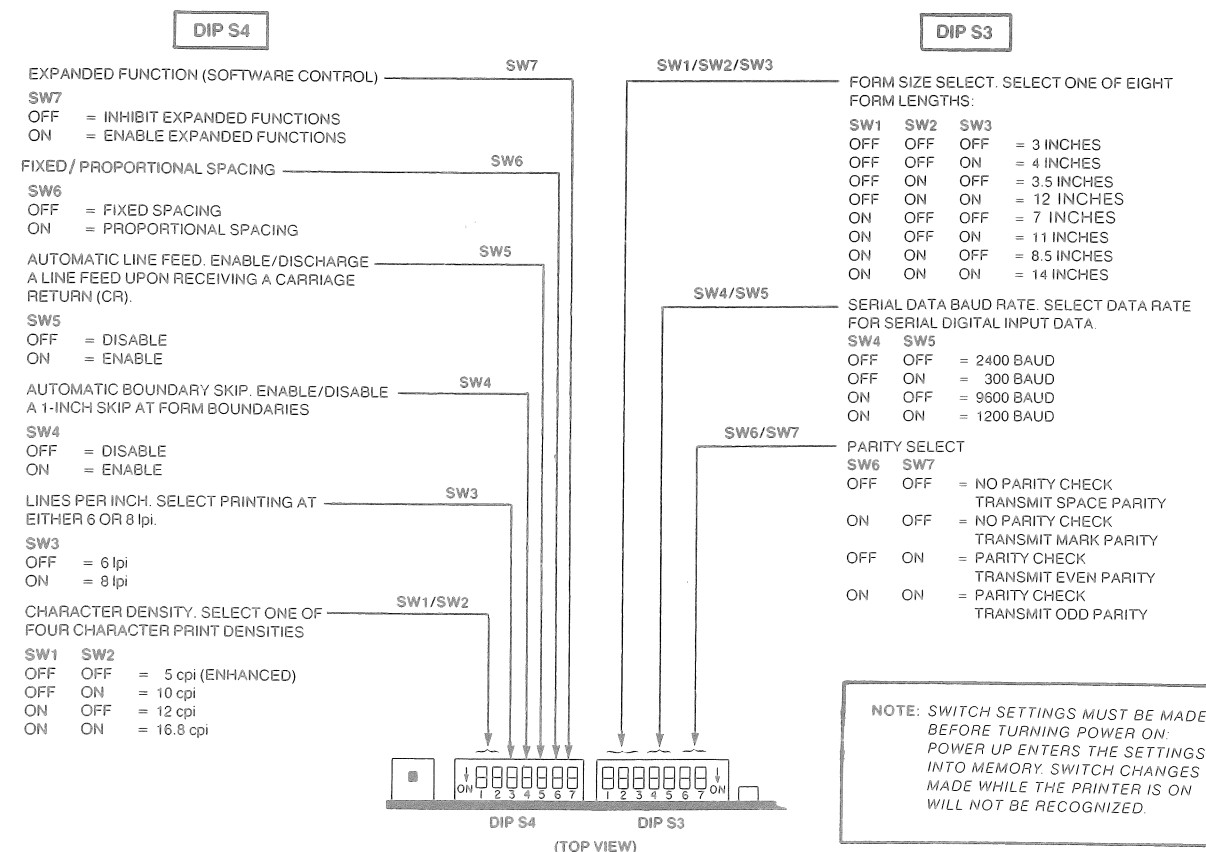

Figure 3-2
- Set the two 7-position DIP switches (S3 and S4) per Table 3-2 and Figure 3-2; use a narrow, blunt object (such as a ball point pen) to set switches.
3.3.2.2 Printer Control Functions. The ASCII control codes to which the IDS-460 Printer can respond are divided into two subsets, as listed in Tables 3-3 and 3-4. Printer response to either subset is determined by the position of the Expanded Function DIP Switch (DIP S4, SW7 as shown in Figure 3-2).